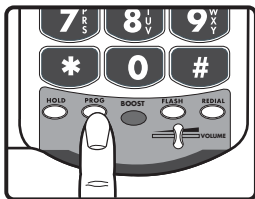

Figure 10
2. Press the PROG button. See Figure 10.